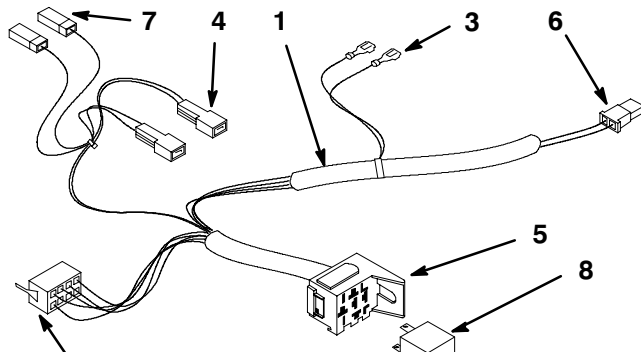

Figure 9
Use figure 9 as a reference for harness connections.
1. With the control panel removed, install self threading bolt and relay socket to panel (Fig. 9 and 10).
2. Plug in the pink wire lead into the red wire tab connector (Fig. 9 and 11). Plug the black wire lead into the black wire tab connector (Fig. 9 and 11).
3. Plug the red wire receptacle to the terminal which the pink wire was located on hour meter (Fig. 9 and 11).
4. Plug the black wire lead to the terminal which the black wire was located on hour meter (Fig. 9 and 11).
1. From Cruise control harness, plug cruise switch connector into the cruise switch as shown in figures 9 and 12 .
2. Install the black and tan brake switch terminals from cruise harness into the brake socket on unit's harness (Fig. 9 and 13).